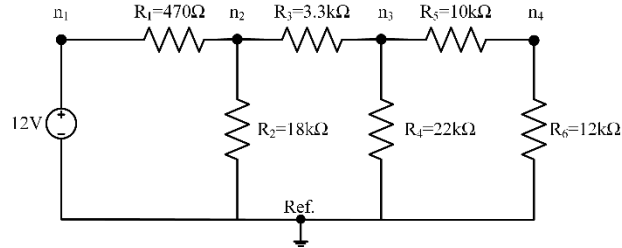

Figure 10.
7. Calculate all node voltages and mesh currents in Fig. 10 using nodal and mesh analysis and write your results into related fields in Table 4.
8. Determine voltages across each component in Fig. 10 using calculated node voltages in the previous question and write them into related fields in Table 4.
9. Show that Kirchhoff's Voltage confirms your calculations for Fig. 10.
- Build the circuit given in Fig. 10, measure voltages and currents given in Table 5 using a multimeter and write them in related places in Table 5. Write expressions for the generated and dissipated powers and calculate them.